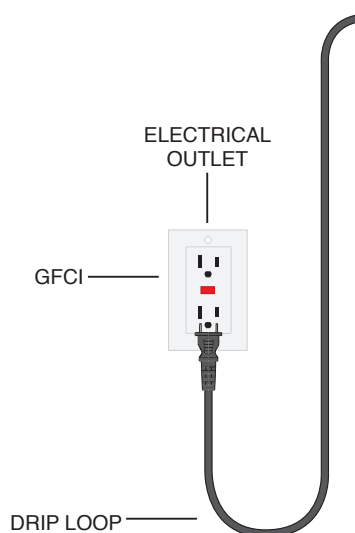

Fig. 1
3. A drip loop must be used with all electrical aquarium devices. A drip loop is a self-made part of the cord hanging below the receptacle. (See Fig. 1)
4. A GFCI (Ground Fault Circuit Interrupter) (See Fig. 1) should be used in the branch circuit supplying all power to water pumps and electrical aquarium equipment. If you do not have a GFCI, we strongly recommend having a qualified electrician install one prior to operating any aquarium component.